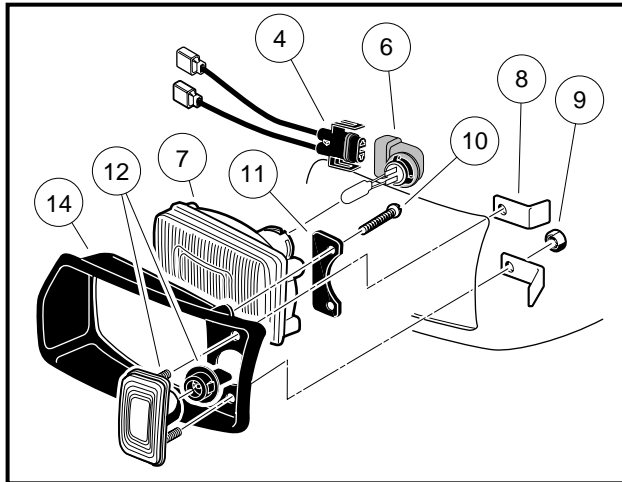

Figure 12-30 Headlight Assembly
2. From the front of vehicle, reach under cowl and turn the wire harness/halogen bulb assembly, (4 and 6), clockwise one-quarter turn (**Figure 12-30, Page 12-29**).
3. Remove the wire harness/halogen bulb assembly (4 and 6) from the headlight lens (7).
4. Lift the retaining tabs on the connector (4) and remove halogen bulb assembly (6).
1. Connect wire harness (4) to the halogen bulb assembly (6). The retaining tab should lock onto the halogen bulb assembly (**Figure 12-30, Page 12-29**).
2. From the front of vehicle, reach under cowl and insert wire harness/halogen bulb assembly (4 and 6), into the headlight lens (7).